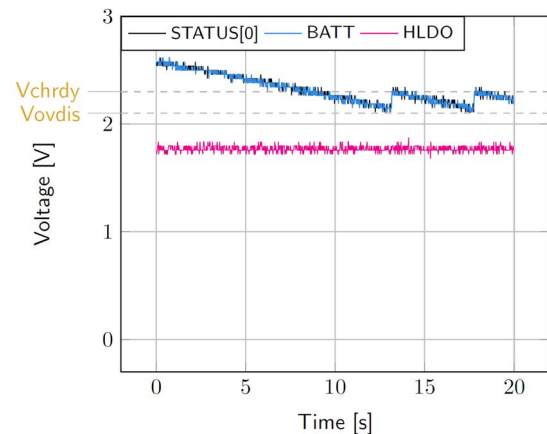

Figure 5: Switching from *SRC* to the primary battery
- *BATT*: Voltage decreases as the system consumes the power accumulated in the storage element. The voltage reaches  $V_{OVDIS}$  and then rises again to  $V_{CHRDY}$  as it is recharged from the primary battery (see Figure 5).
- *STATUS[0]*: Never de-asserted as the LDOs are still functional (see Figure 5).
- *HVOUT*: Stable and not affected by switching on the primary battery (see Figure 5).